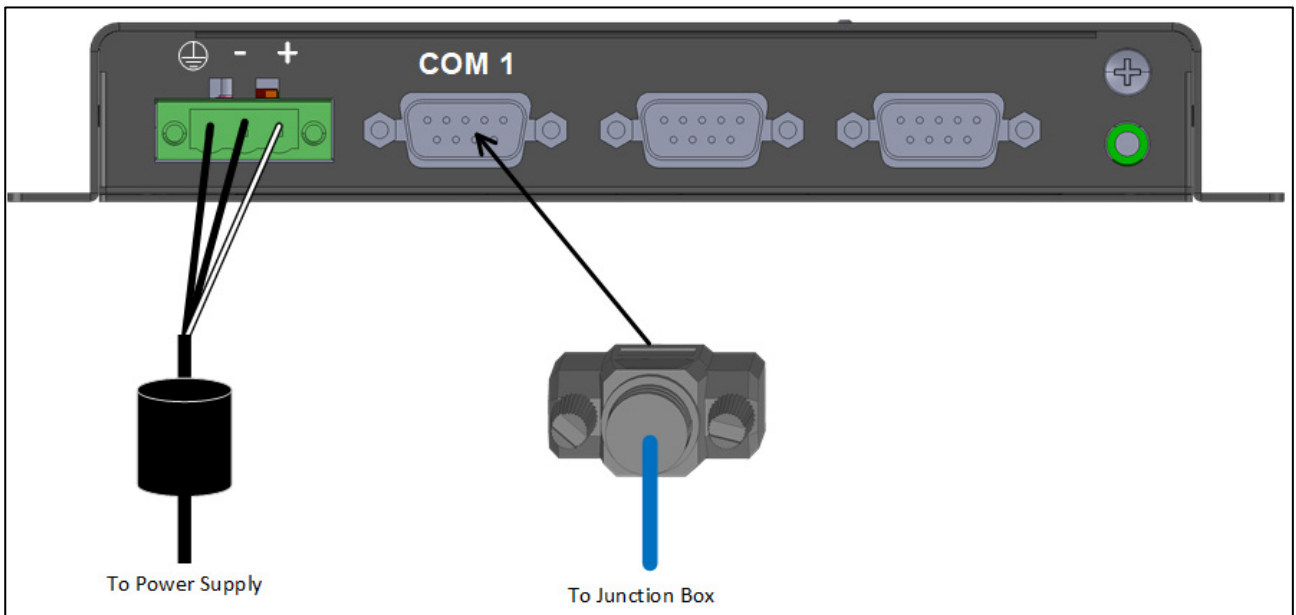

Figure 11: Insert 9 Pin Connector
1. Insert the Junction Box 9-Pin Connector into COM1 (Figure 11).